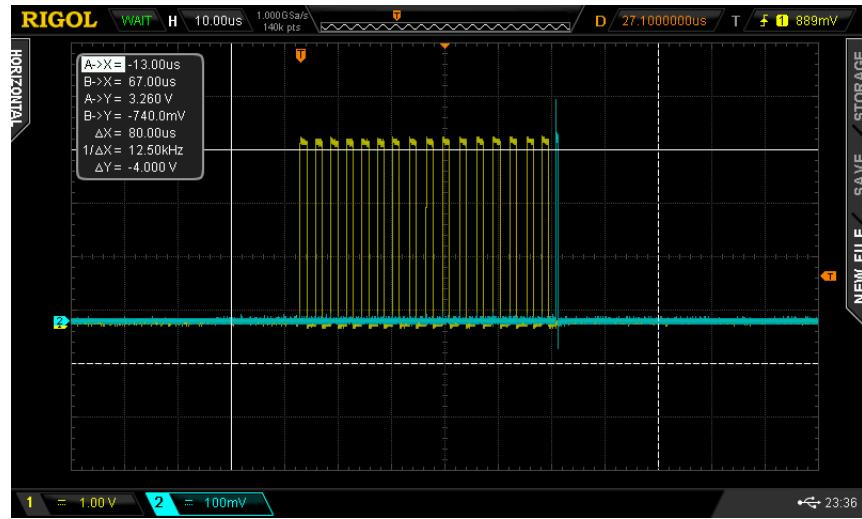

Figure 9: A photo of the uC clock (yellow) and latch enable (blue) pulses on an oscilloscope.
- You should see one bit after the last clock bit (see timing diagram 8). A picture of the oscilloscope trace is in figure 9.